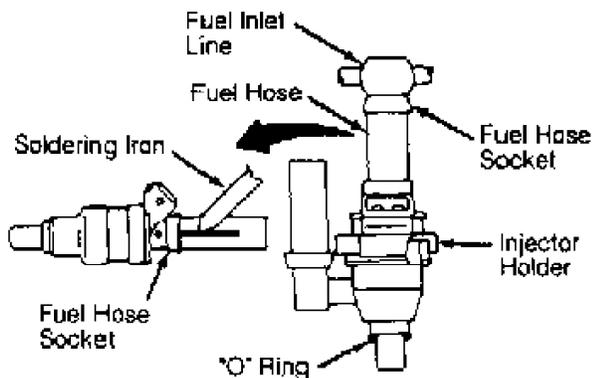

Fig. 1: Removing Fuel Injector Assembly & Fuel Hose (M30)
4) To remove fuel hose from injector, heat a sharp knife or soldering iron, and cut into braided reinforcement. DO NOT allow sharp knife to cut all the way through hose and touch injector tail piece. Pull fuel hose out by hand. See Fig. 1.